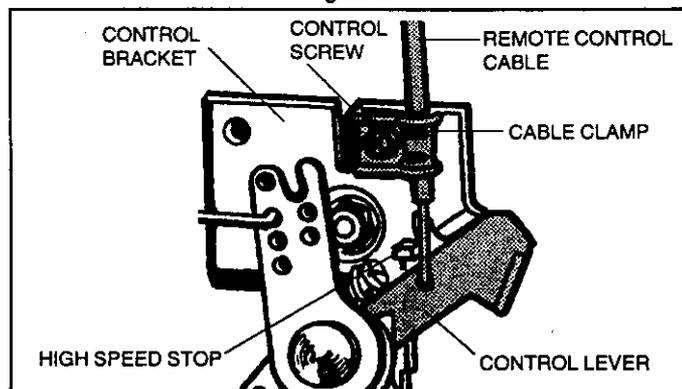

Figure 7
② REMOTE CONTROL (see Figure 7):